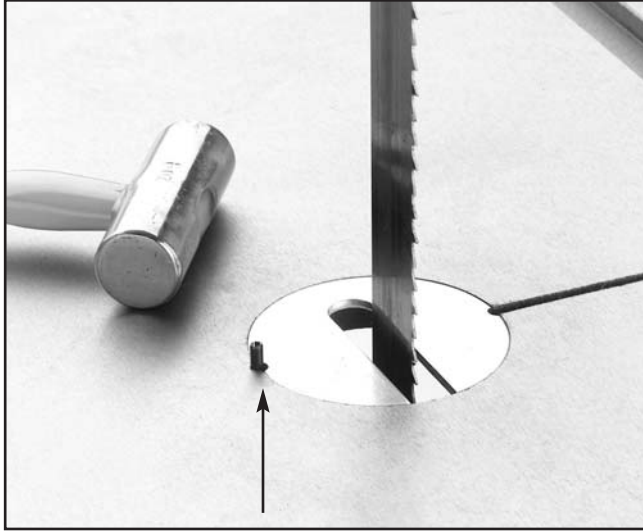

Figure 22. Inserting roll pin in table.
7. Install the table insert in the center of the table. Rotate the table insert so the notch in the insert lines up with the notch in the table to form a small hole. Locate the roll pin from your hardware bags and tap it into this small hole as shown in **Figure 22**.